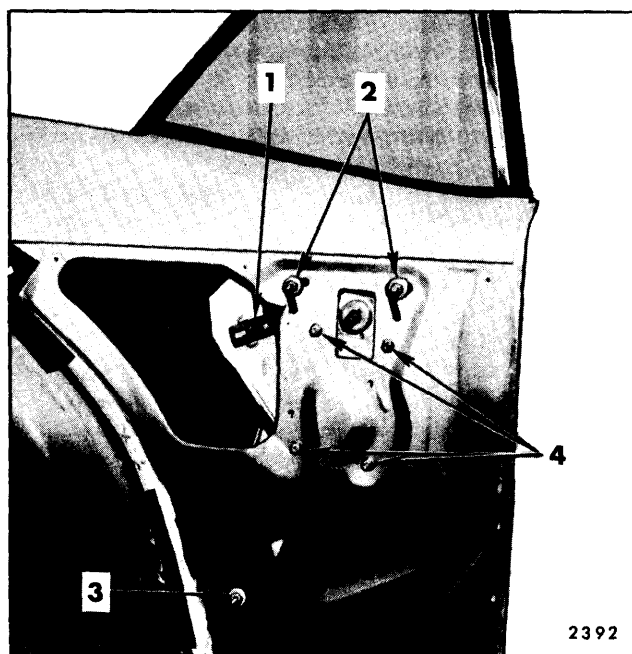

Fig. 7-32—Rear Quarter Window Hardware - "F" Styles
4. Remove window guide upper and lower attaching nuts (Fig. 7-32).
In or out and fore or aft adjustment is provided by inner panel slots and adjusting studs of the window guide. Up-travel of the glass is controlled by a stop located on the regulator assembly (Fig. 7-32).